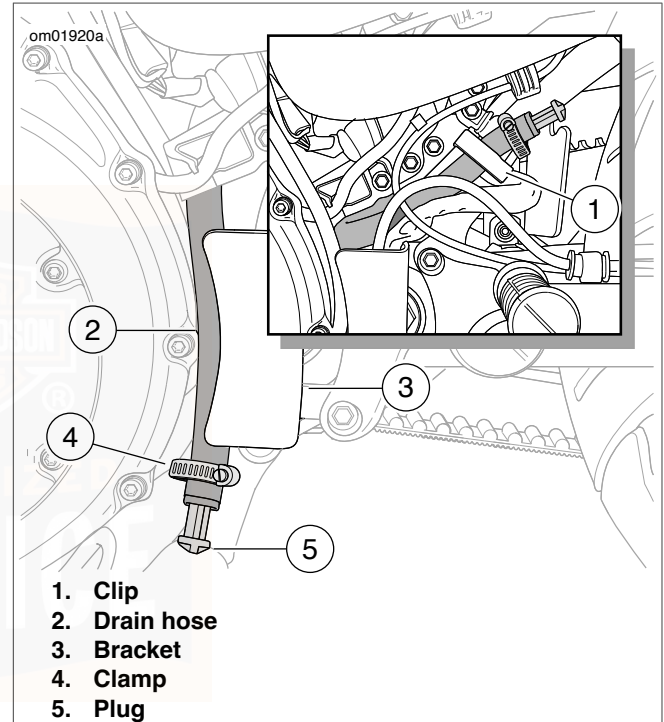

Figure 41. Drain Hose
4. See Figure 41. Pull clip (1) from frame tube.
5. Direct drain hose (2) in front of bracket (3) into drain pan.
6. Loosen clamp (4). Remove plug (5) from end of hose.